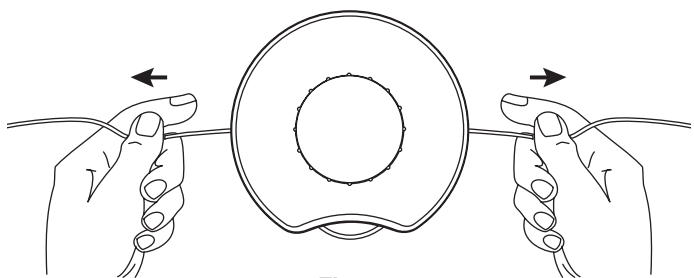

Fig. 7
3. Pull the ends through making sure that the ends are of equal length and the middle of the line is centered between the insertion holes (Fig. 7).